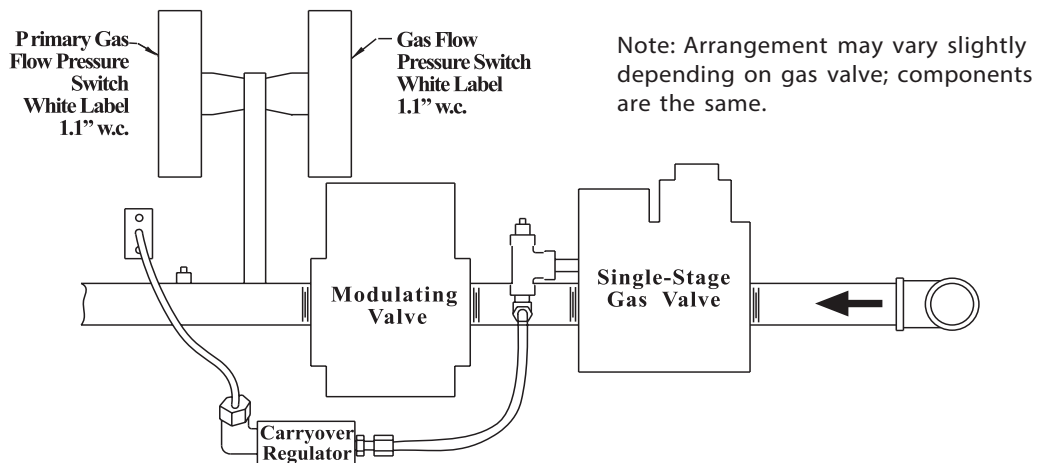

Figure 26. Option AG39 Manifold Arrangement
- The gas train (see Figure 26) includes a single-stage gas valve, a modulating valve, and two gas pressure switches. The burner rack is equipped with one flash carryover and a regulated gas lighter tube system. The carryover lighter tube receives its gas supply through the regulator simultaneously with the gas to the burner. Control of the system is through a Maxitrol amplifier (see Figure 25) with a corresponding remote temperature dial.